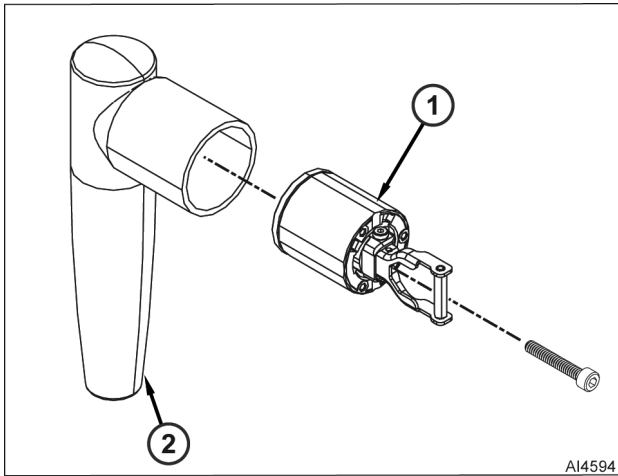

Fig. 40
5. Remove screw and latch mechanism (1, Fig. 40) from door handle (2).